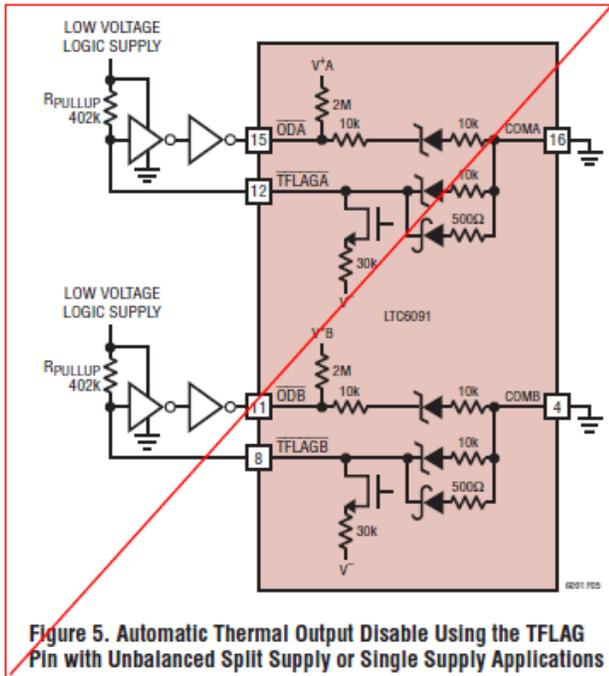

Figure 5. Automatic Thermal Output Disable Using the TFLAG Pin with Unbalanced Split Supply or Single Supply Applications
- In the case where the COM pins are grounded, and the V^- supply is within 0V to -3V of ground, logic buffers must be used to force $\overline{\text{ODA}}$ or $\overline{\text{ODB}}$ to a logic low as shown in Figure 5. The pull-up resistor (R_{PULLUP}) of Figure 5 must be chosen large enough to guarantee a logic low for the logic buffer. For most CMOS, this requires at least 402k of pull-up resistance. Alternatively, the logic buffer is not needed if you float both COMA and COMB. With COM floating, you may simply tie the respective channel's $\overline{\text{OD}}$ directly to $\overline{\text{TFLAG}}$ for proper thermal shutdown operation.